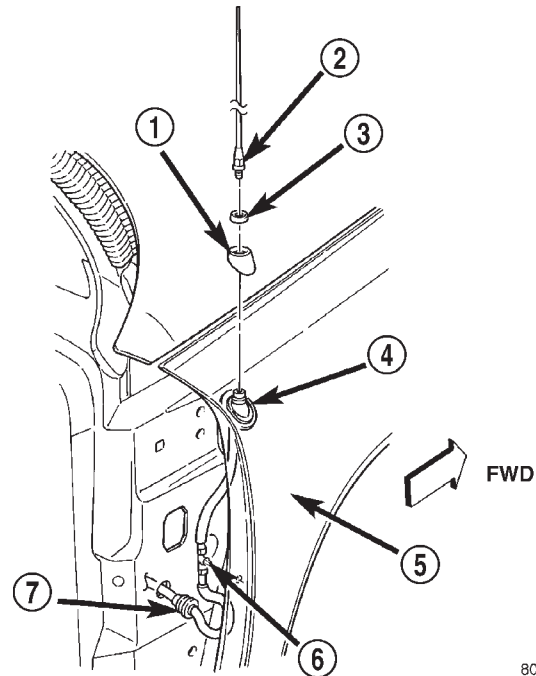

Fig. 15 Antenna Mounting
(8) Remove the antenna adapter from the top of the fender.
(9) Lower the antenna body through the mounting hole in the top of the fender.
(10) Pull the antenna body and cable out through the opening between the right cowl side outer panel and the fender through the front door opening (Fig. 15).
(11) Disengage the antenna coaxial cable grommet from the hole in the right cowl side outer panel.